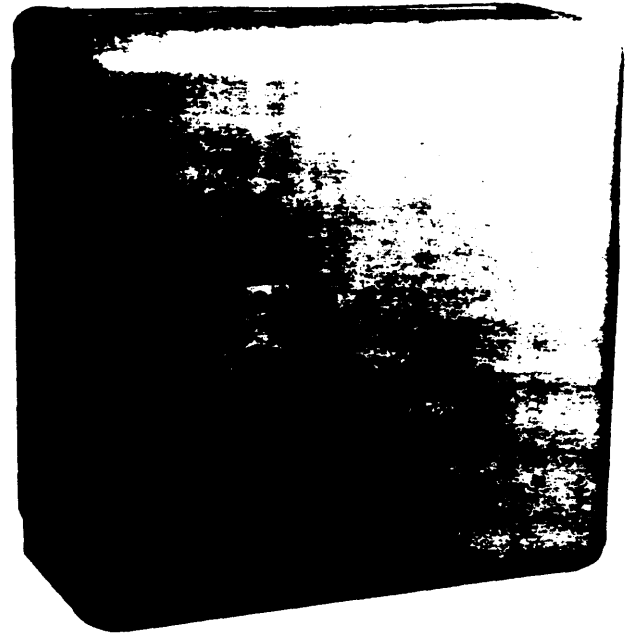

Fig. 1—PagePac® Telephone Paging System
1.04 The Dracon PagePac® (Fig. 1) is a powerful, self-contained paging unit. Available in 50-, 100- and 200-watt capacities, it provides up to 24 separate paging zones plus all-call paging into all 24 zones at once. Talk-back is optional as is an FM tuner for background music and music-on-hold. The basic system comes in a cabinet suitable for wall or rack mounting. Circuit cards are ordered separately and the only other materials required are the loudspeakers, speaker mounting hardware and speaker wire.